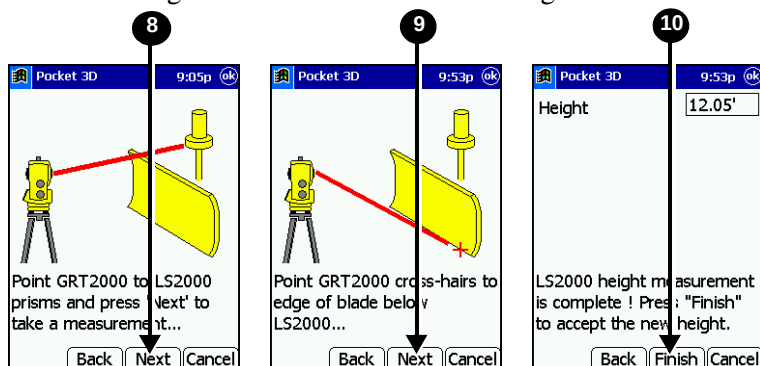

Figure 8-9. Measure Height of LS-2000
8. Accurately sight the GRT-2000 telescope on the LS-2000 prism, and press **Next** to measure the sensor position (Figure 8-9).
9. Move the GRT-2000 telescope so the cross-hairs rest on the cutting edge. Press **Next** to measure the vertical height from the prism to the cutting edge (Figure 8-9).
When the GRT-2000 finishes the measurement, the height of the LS-2000 from the cutting edge displays on the LS-2000 height dialog box (Figure 8-9).